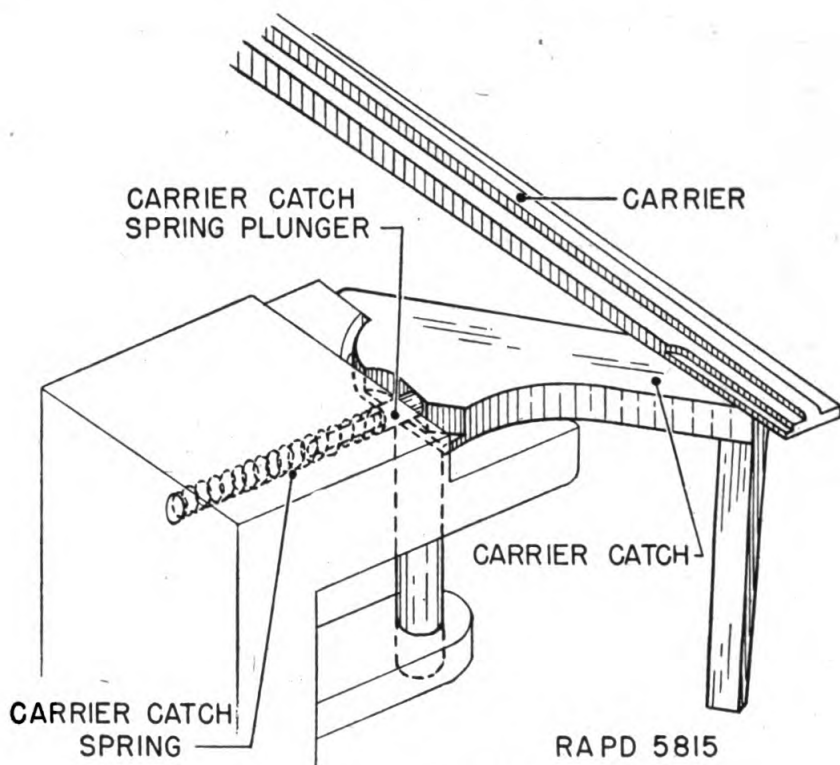
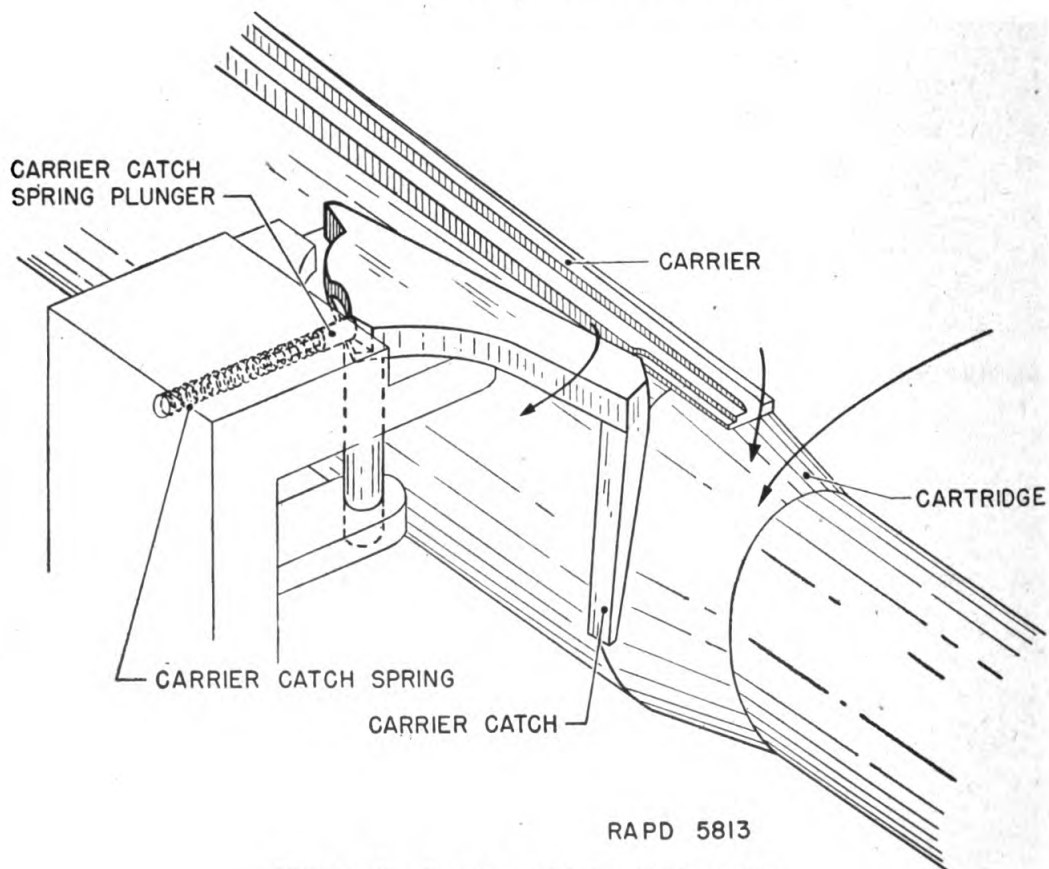

FIGURE 12.—Carrier supported by carrier catch.
FIGURE 13.—Carrier pushing cartridge down.
(8) *Carrier assembly and carrier catch*.—The carrier is a long flat lever which pivots vertically about an axis in the back part of the feed box. The carrier dog is a short flat edged piece that pivots about the lower back part of the carrier and is positioned by a spring and plunger located in the carrier body (fig. 18). During recoil, the lock frame presses the carrier dog up against the spring and plunger and then the dog holds the lock frame in the recoiled position. In this position the compressed carrier spring causes the carrier to exert a downward force on the carrier catch (fig. 12). The carrier catch is so positioned that it holds the carrier in a horizontal plane just above the incoming cartridges. As the cartridge is stripped from the clip, it pushes the carrier catch against a spring and plunger (fig. 13), thus-freeing the carrier to push the cartridge down into the gun mechanism. When the carrier reaches its lowest limit, it kicks the dog out of the notch in the lock frame and the lock frame then charges the cartridge into the firing chamber. The carrier is brought up over the carrier catch by the recoiling tube extension (par. 9c).